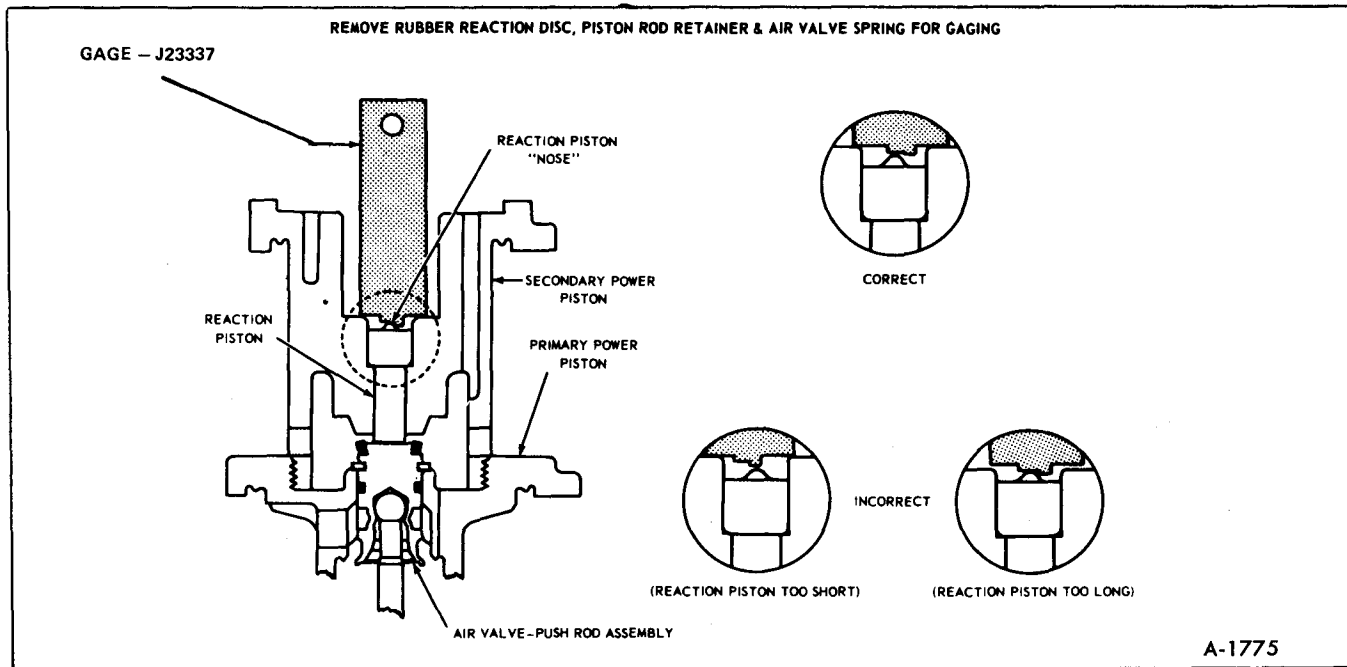

Figure 51—Gauging Piston Rod
47. Place gauge J-23337 over the piston rod in a position which will allow the gauge to be moved to the left or right without contacting the studs. (Figure 51)